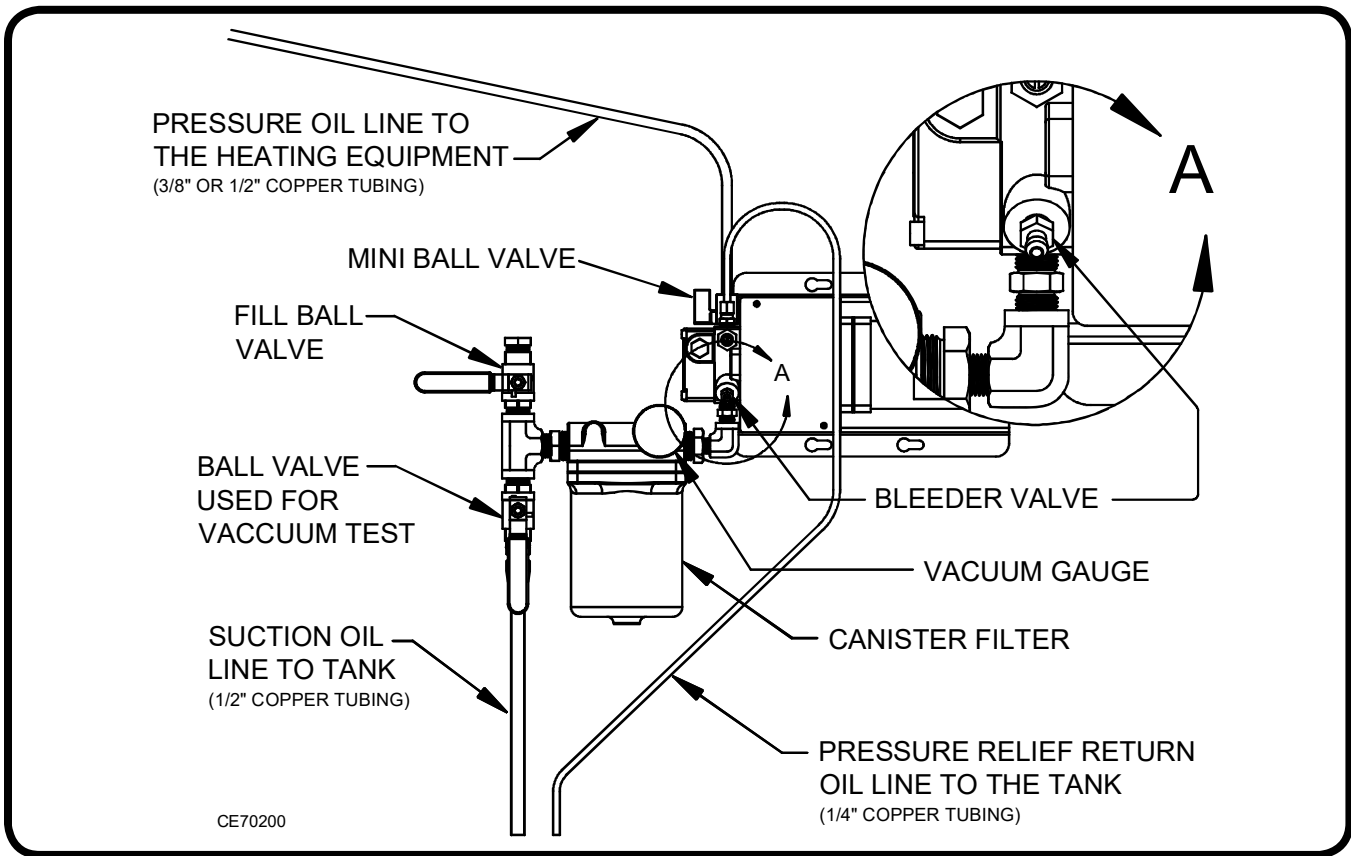

Figure 13: Typical Metering Pump Installation (Standard Mounting on a Wall)
- (1) Refer to Figure 13 for a typical metering pump installation (standard mounting on a wall).
- (2) Use appropriate hardware to mount the metering pump system to the wall.
- (3) Keep the pump assembly as close to the tank as possible.